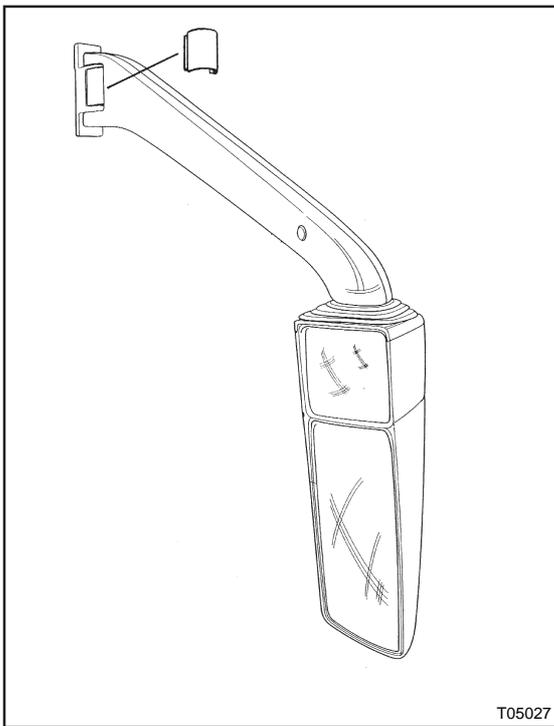

Figure 2: Support arm dust cap removal
1. With a small flat tip screw driver, pry off and remove the dust cap from the support arm mounting bracket (see Figure 2).